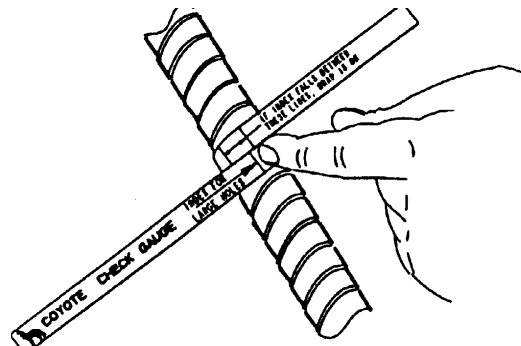

FIGURE 6 - CHECK GAUGE
4.07 To check LOCK-TAPE Sealant application, wrap the proper end of the COYOTE Cable Measure Tape check gauge around the applied LOCK-TAPE Sealant. If the measurement line falls outside of the index lines of the check gauge, LOCK-TAPE Sealant must be reapplied. It is acceptable to reapply the original LOCK-TAPE Sealant. (Figure 6)